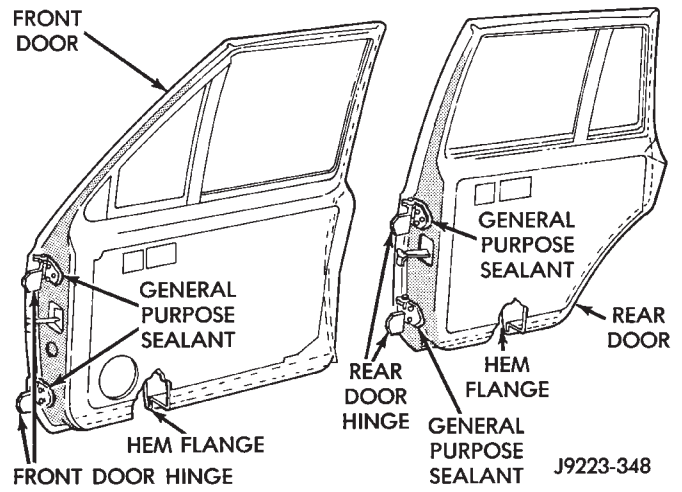

Fig. 31 Replacement Door Preparation
- (1) If a new front door is being installed, coat the door interior with anti-corrosion wax. Seal the door flange with sealant (Fig. 31).
- (2) Before installing a replacement door, transfer original window glass, and components to replacement door.
- (3) Position the door in the body opening.
- (4) Align the door hinges, plates and shims with bolt holes and install the hinge bolts.
- (5) Position the door restraint (check) in the bracket with the holes aligned and insert the pin. Tap the pin to seat it in the bracket.
- (6) Align/adjust the door as necessary. Tighten the hinge bolts to 35 N·m (26 ft-lbs) torque.
- (7) Apply general purpose sealant around the door hinges/door face mating area (Fig. 31).
- (8) Adjust/align the latch striker and latch as necessary.